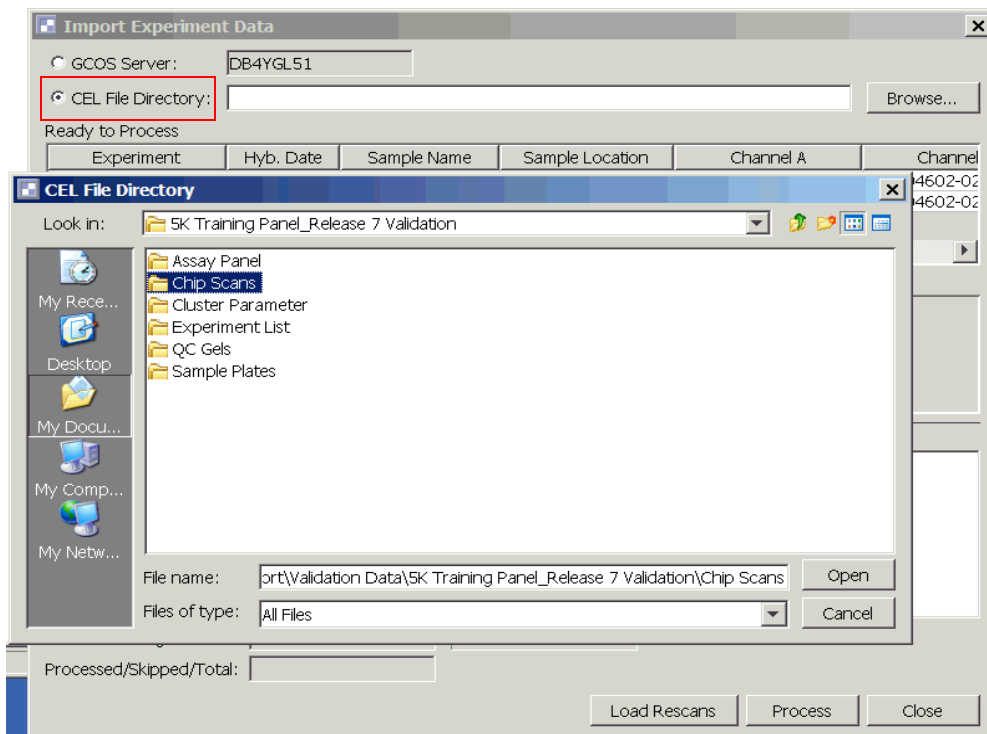

Figure 3.7 Importing .cel Files From a Directory
3. Select the **CEL File Directory** radio button (Figure 3.7.)